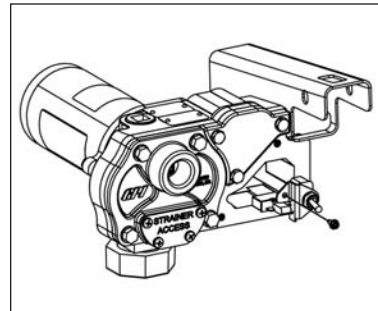

Figure 13
- Remove the torx head screw, then remove the switch assembly. (Figure 13)